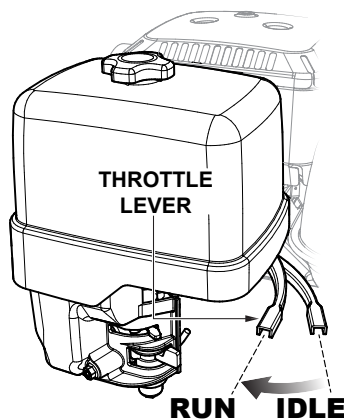

Figure 12. Throttle Lever (Run)
- To begin pumping, place the throttle lever (Figure 12) in the **RUN** position.